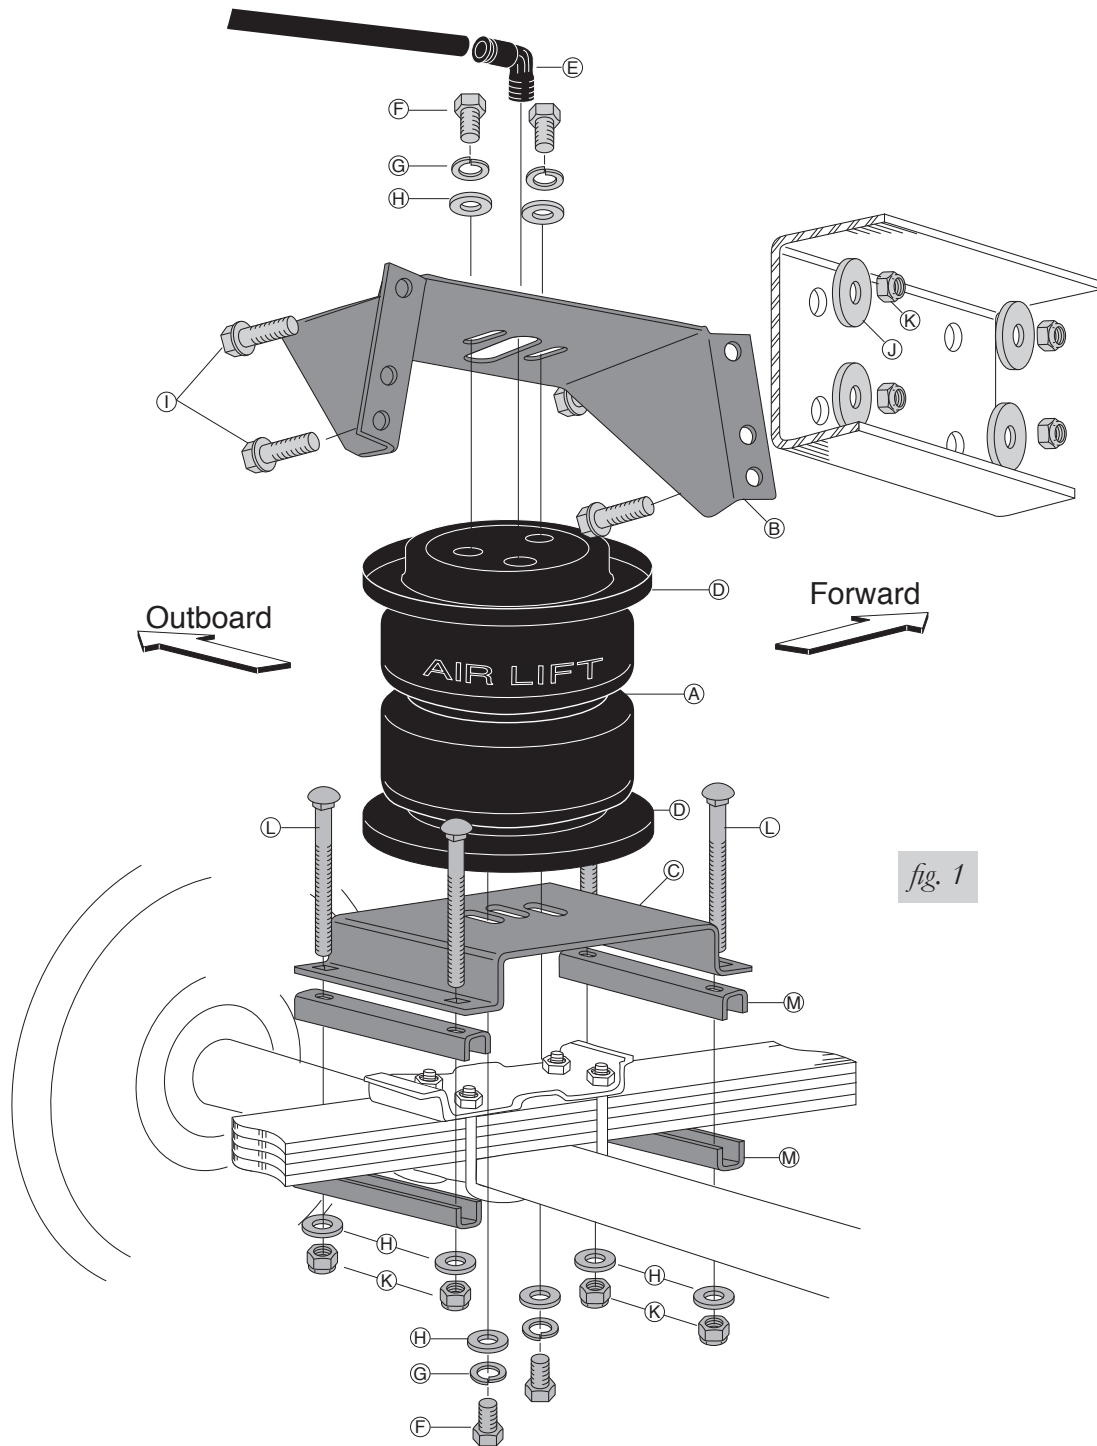

fig. 1
3. Attach the upper bracket (B) with the legs down using two flat washers (H), two lock washers (G), and two bolts (F). Refer to Figure 1. Leave loose for adjustment.
4. Place the lower bracket (C) on to the bottom of the air spring and roll plate so that the flat edge of the lower bracket mounts towards the legs of the upper bracket (inboard). Refer to Figure 1.
5. Attach the lower bracket to the air spring assembly using two flat washers (H), two lock washers (G), and two bolts (F). Refer to Figure 1. Leave loose for adjustment.
*If the measurement is not within the specified parameters or if the stock u-bolts hit on the lower bracket, use two spacer bars (M) provided under the lower bracket to achieve the distance of 4.5" to 6.5" (Figure 1).*
4. Attach the lower bracket using two clamp bars (M), four carriage bolts (L), four flat washers (H), and four nylock nuts (K). Refer to Figure 1. Tighten securely.
2. Center punch and drill a hole on the other side of the upper bracket and install a frame bolt (I), an oversized flat washer (J), and a nylock nut (K). Refer to Figure 1.
3. Remove the clamps and drill the remaining two holes and install a frame bolt (I), an oversized flat washer (J), and a nylock nut. Tighten all upper bracket hardware to 44 ft-lbs.